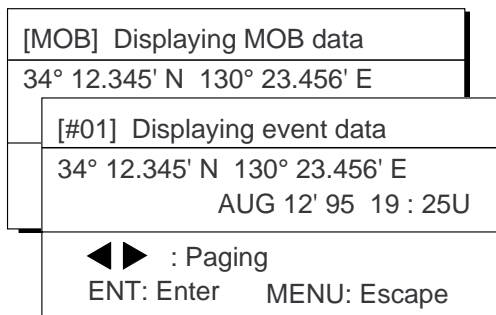

Figure 4-8
- 2) Press [2] to select MOB/Event Position. The display shown in Figure 4-8 appears.